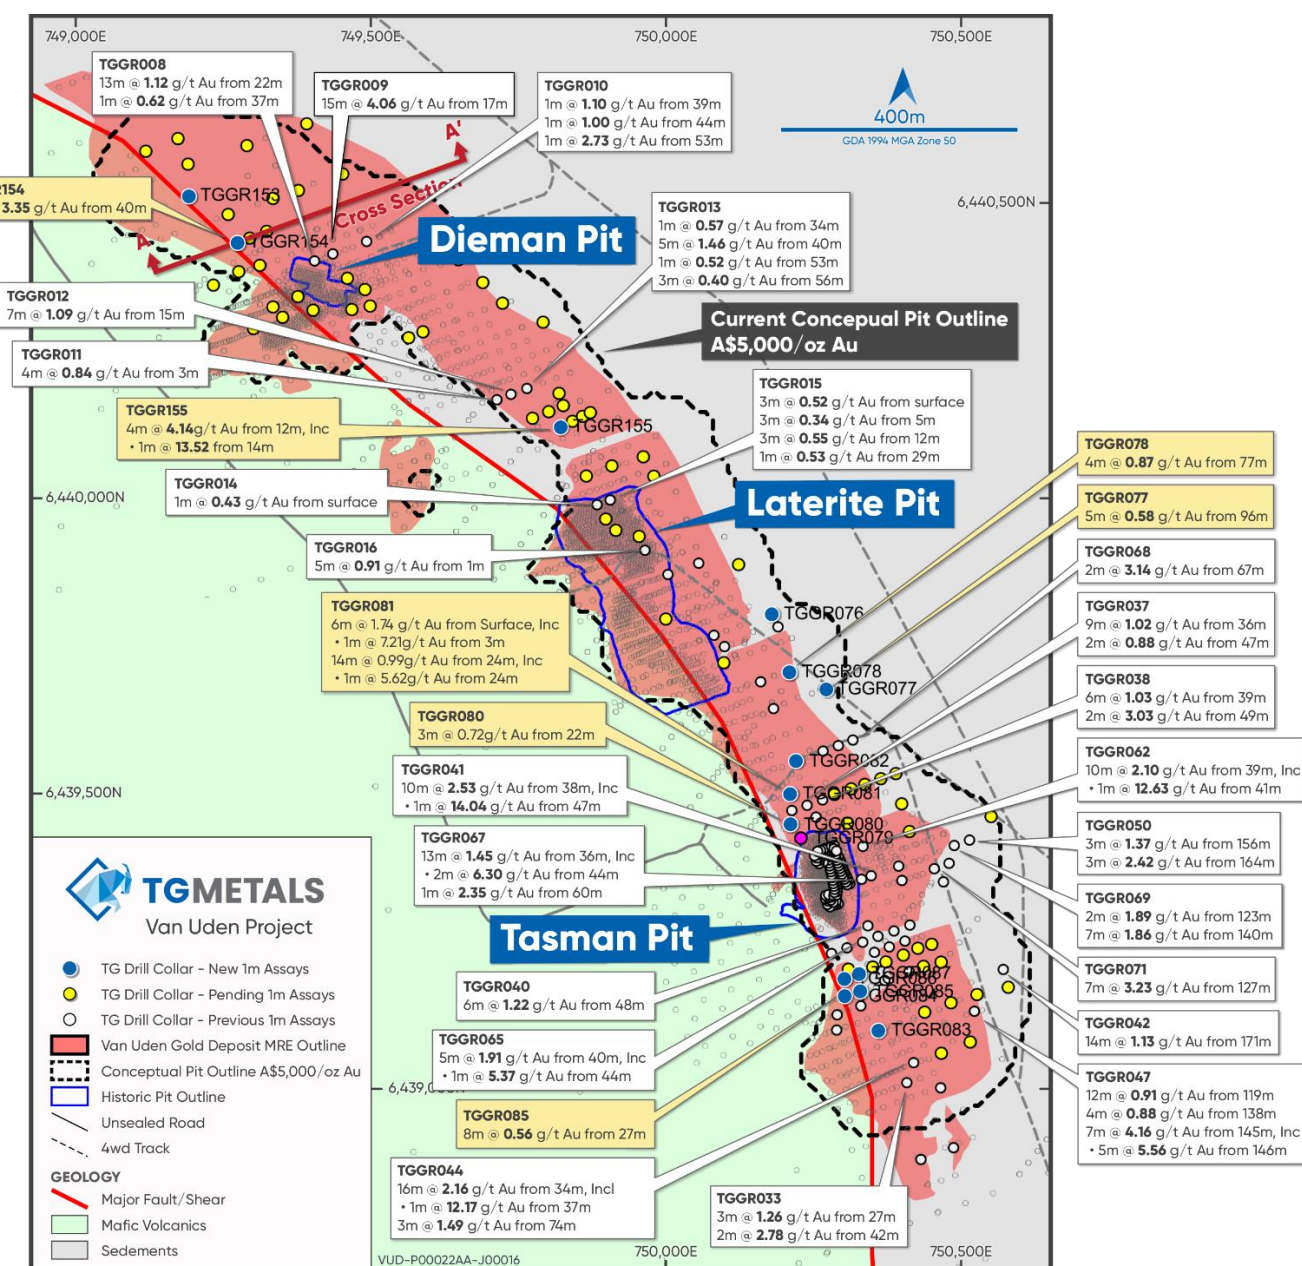

Figure 1 – New Resource Drilling Collars Showing Select Intercept Highlights (New Results in Yellow) and Pending Assay Drillholes marked yellow collars
These results are from reverse circulation (RC) drillholes in the entire length of the Van Uden gold deposit (**Figure 1**), targeting resource depth extensions and infill drilling. Multiple gold zones intercepted are showing increasing continuity. Result highlights include:
The ongoing purpose of this drilling campaign was to expand on the current Van Uden mineral resource estimate (MRE) via infill and down dip extensions and provide data to improve geological understanding. These results are from the northern, central and southern parts of the Van Uden deposit, **Figure 1** shows the location of the reported results for these drillholes.
The reported drilling is in the northern, central and southern areas within the vicinity of the current MRE. The drill collars of drillholes with pending assays are also included in this report and updated collar coordinates from DGPS field surveying using the MGA2020 Zone 50 grid and datum to align with DMPE requirements for government data submission. See **Figure 1** for drill collar locations.